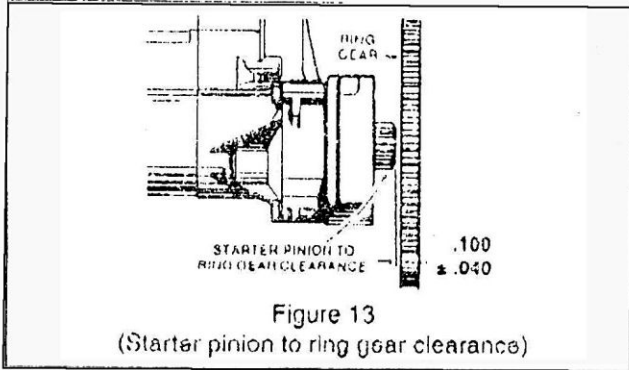

Figure 13
1. Check starter pinion to ring gear clearance. Clearance should be $.100" \pm .040"$. If it is not possible to measure directly, measure the distance from the edge of the ring gear to the starter mounting surface and housing. Next, measure from the end of the pinion to the same starter mounting surface. Subtract this from the first dimension to get the clearance. If it is too tight, .062 shims are provided with the starter to move the pinion back. (See Figure 13)